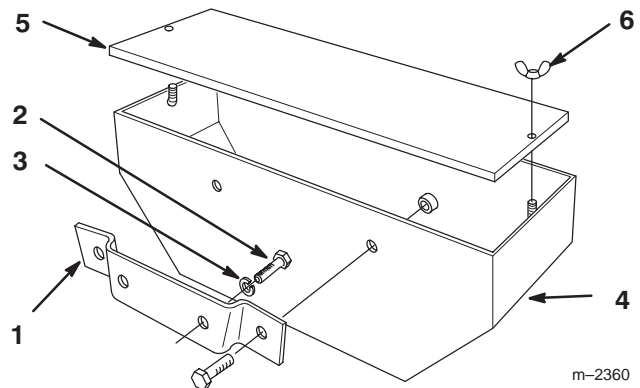

Figure 1
3. Secure mounting bracket to rear frame with (2) 1/2-13 x 1-1/4" (32 mm) bolts and 1/2" (13 mm) lock washers (Fig. 1).
4. Secure weight box to mounting bracket with (2) 1/2-13 x 1-1/4" bolts (previously inserted into bracket) and locknuts (Fig. 1).
5. Fill weight box with approximately 90–100 lbs. of sand or gravel and install cover. Secure cover with (2) wing nuts (Fig. 1).